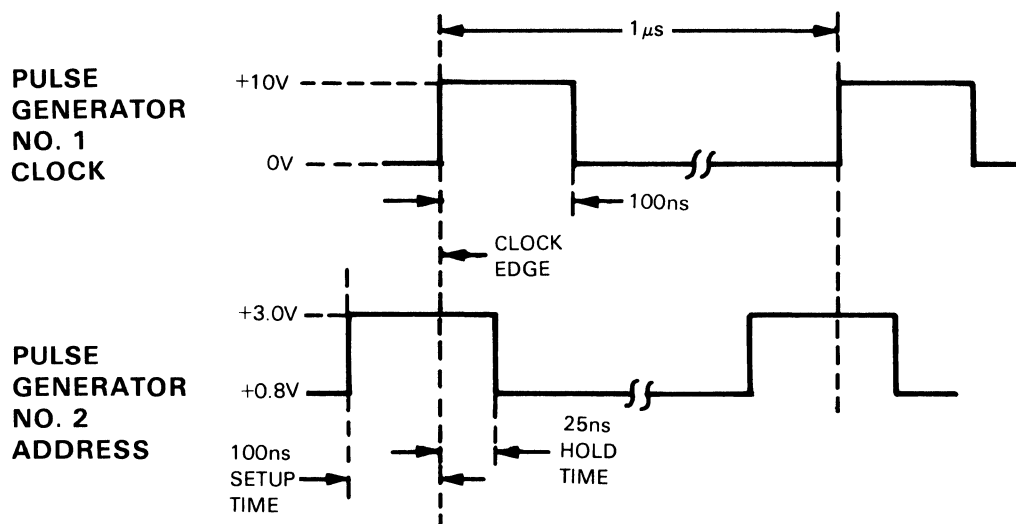

Figure 4-11. Address Lines Test Waveforms
- Adjust pulse generators for waveforms shown in figure 4-11.